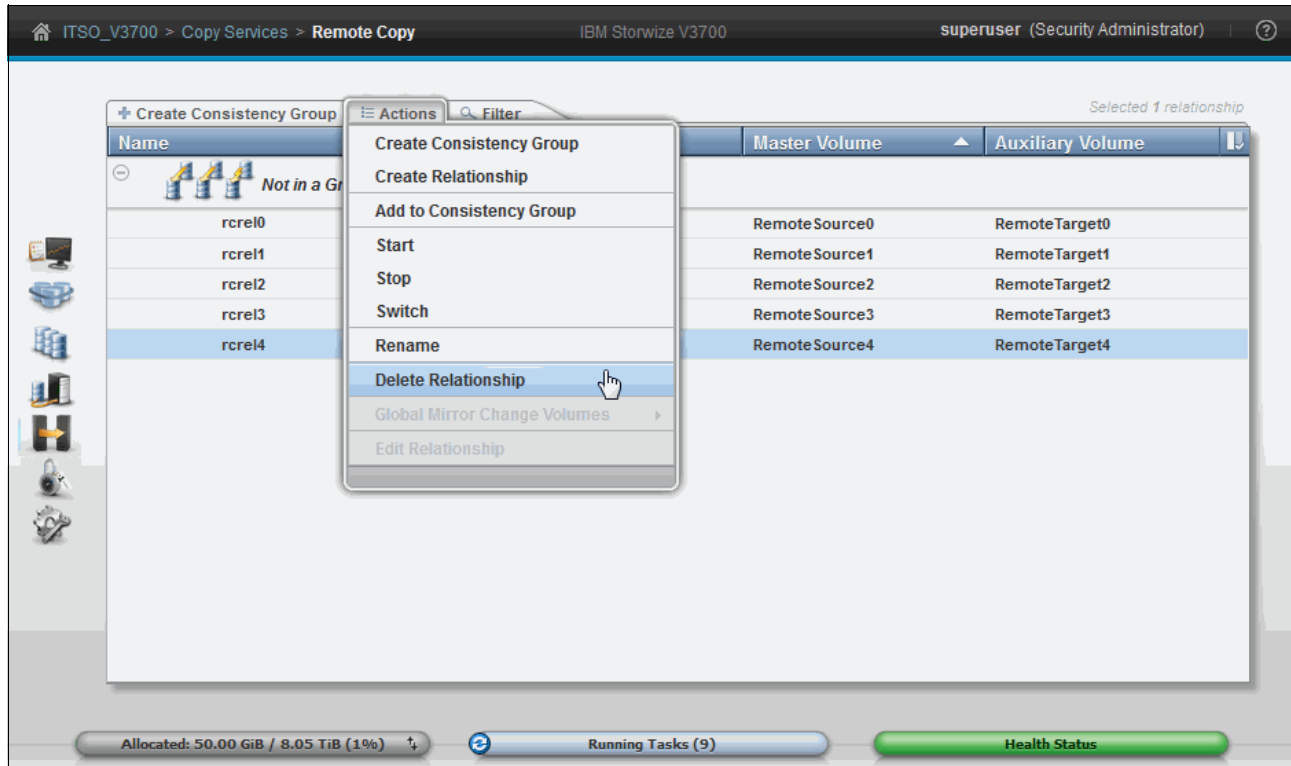

Figure 10-118 Delete a Remote Copy relationship
1. Select the relationship and select **Delete Relationship** from the **Actions** menu, as shown in Figure 10-118 on page 557, or highlight the relationship and right-click.